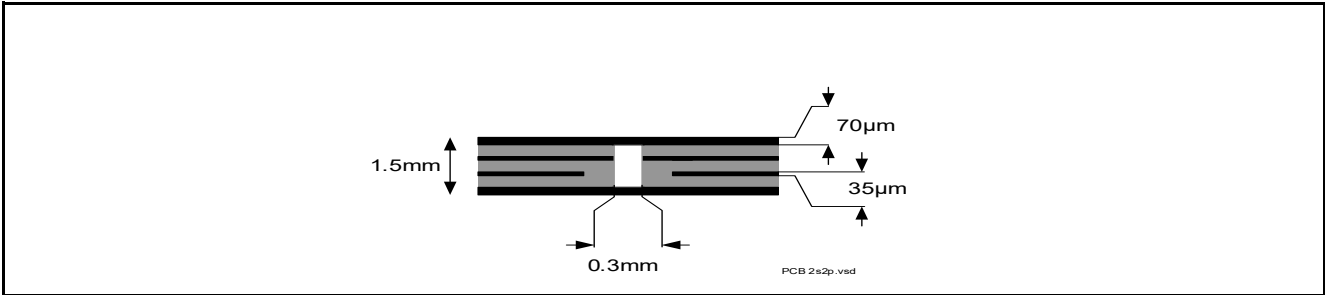

Figure 4 2s2p PCB Cross Section
- 2) Specified R_{thJA} value is according to JEDEC JESD51-2,-5,-7 at natural convection on FR4 2s2p board with 1 W power dissipation at $T_A=105^{\circ}\text{C}$; The product (chip + package) was simulated on a 76.4 x 114.3 x 1.5 mm board with 2 inner copper layers (2 x 7 μm Cu, 2 x 35 μm Cu). Where applicable, a thermal via array under the exposed pad contacts the first inner copper layer. Please refer to Figure 4.